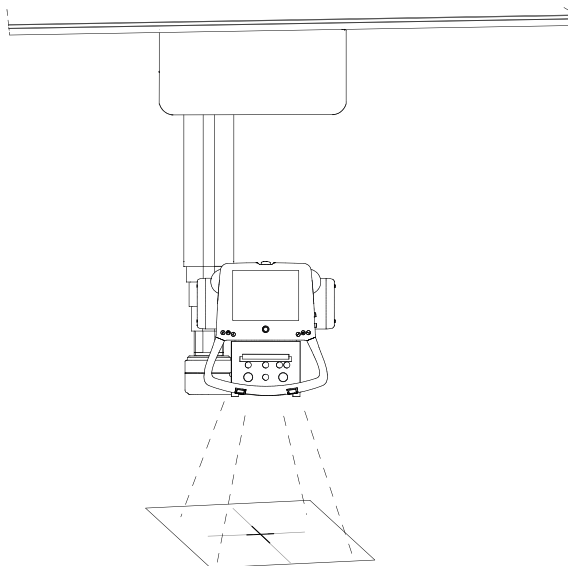

Fig. 4-60 OTC horizontal alignment
3. Turn on the collimator light and mark a cross in the center of the collimator light field on a piece of paper placed on the floor according to Fig. 4-60 *OTC horizontal alignment* below.